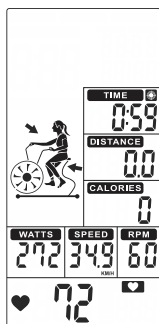

FIGURE 40
3. The preset TIME value counts down, DISTANCE, CALORIES, WATTS, SPEED, RPM start counting. (Figure 40)